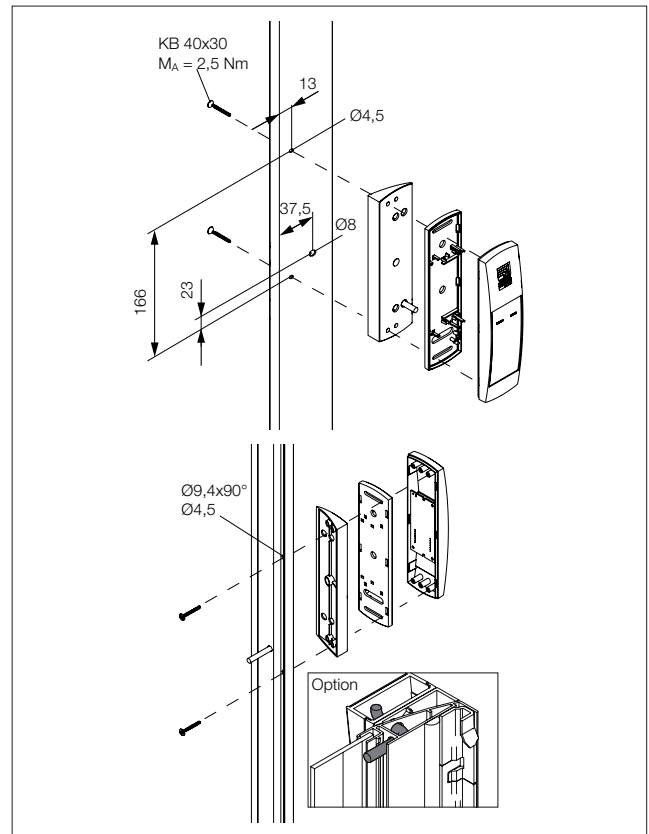

Fig. 4: VX IT glazed door, VX IT vented door installation
- Drill suitably sized holes at the required part of the frame of the VX IT glazed door (Fig. 4).